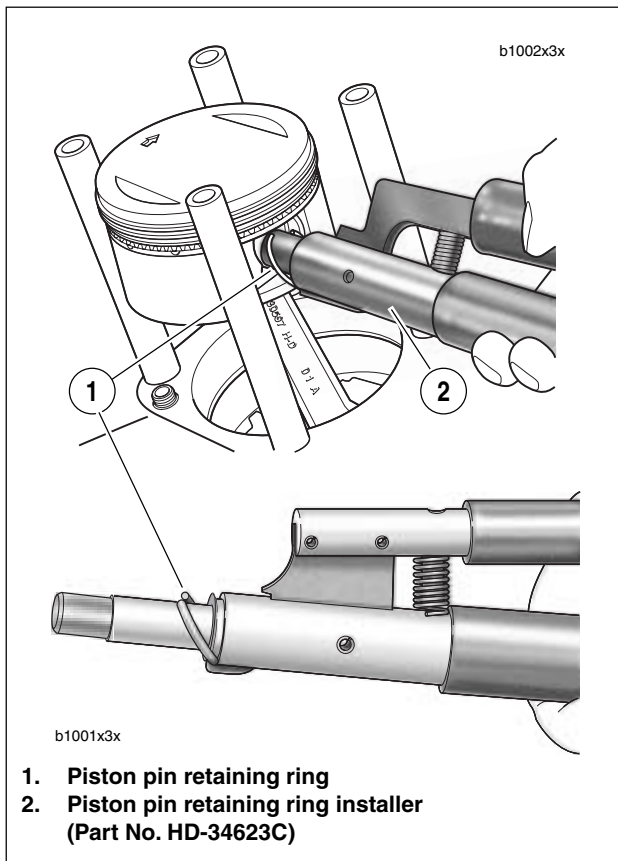

Figure 3-90. Removing Piston Pin Circlip
8. See Figure 3-90. Remove the piston pin circlip as follows: